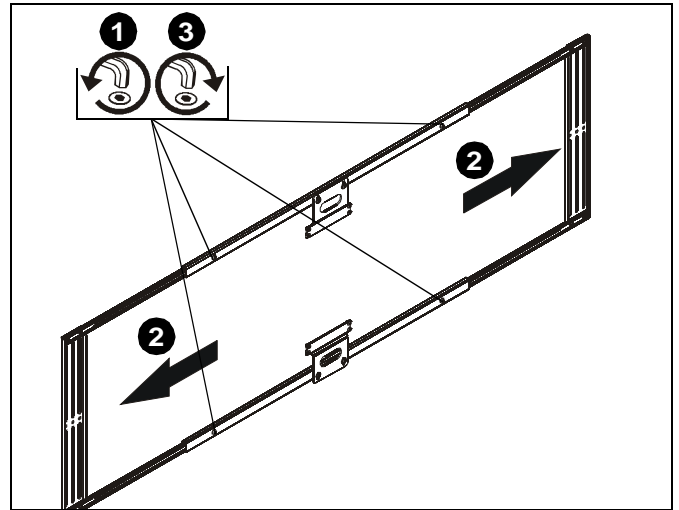

Figure 11
- Loosen four extension adjustment screws on horizontal brackets. (See Figure 11)
- Adjust speaker brackets to desired horizontal positions. (See Figure 11)
- Tighten four extension adjustment screws when desired mounting position is reached. (See Figure 11)